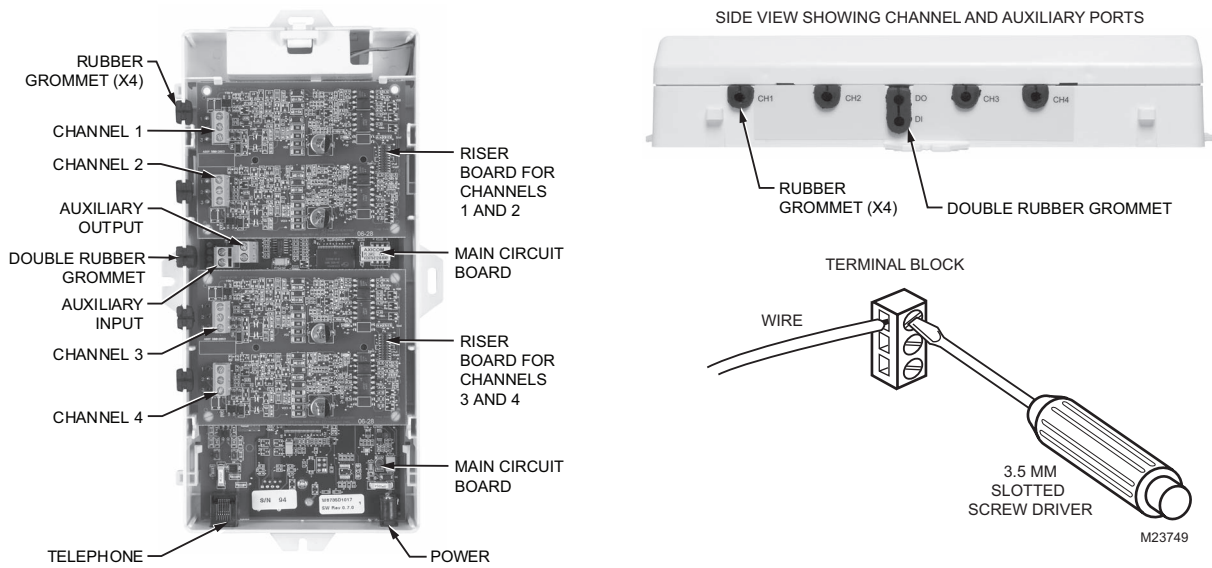

Fig. 4. Wiring Connections (4-channel).
Refer to Fig. 4 and Table 2 for the location and function of each terminal.
6. As needed, adjust the position of the grommet and press it into place in the fitting provided on the base. See Fig. 4.
8. Bundle the wires and tie-off using the two wire tie-offs molded into the base. See Fig. 4.